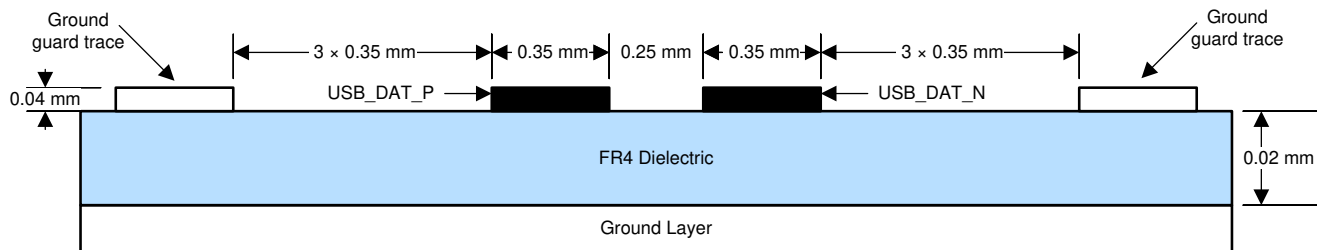

Figure 9-14. USB Layout Example
- (1) If using the minimum trace width and spacing to escape the Controller ball field, widening these out after escape is desirable if practical to achieve the target 100 Ω impedance (that is, to reduce transmission line losses).
- (2) One PCB layout example for the differential pair is shown in Figure 9-14.